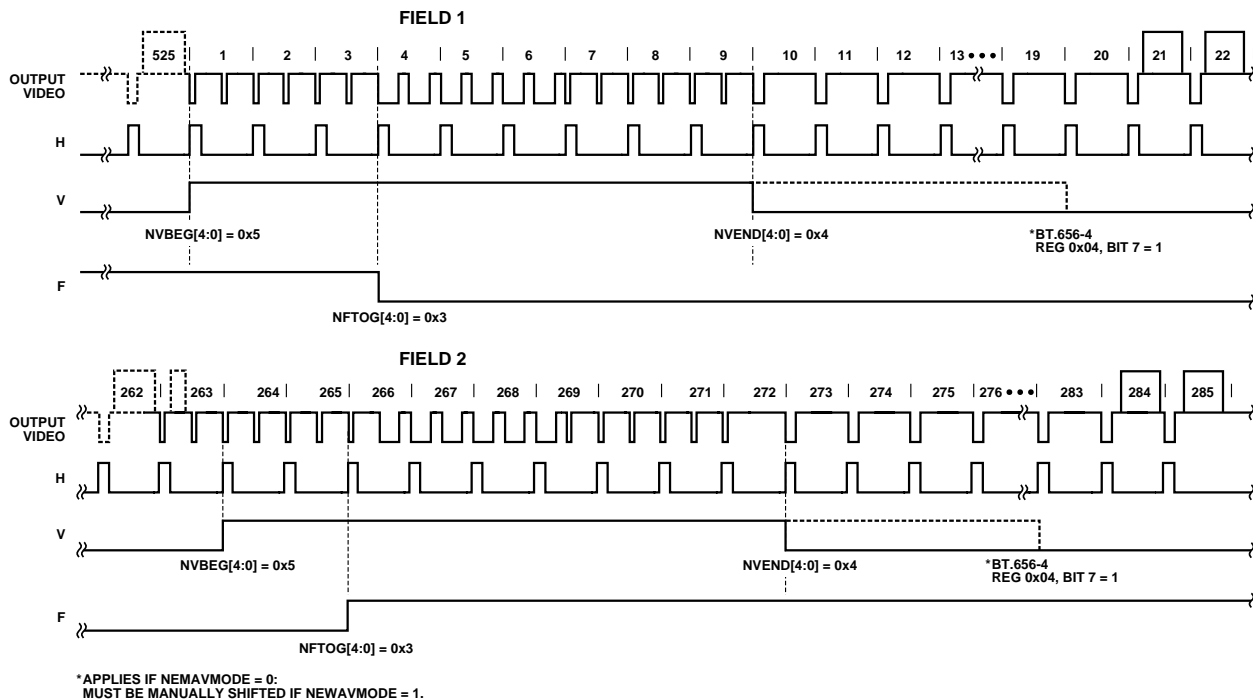
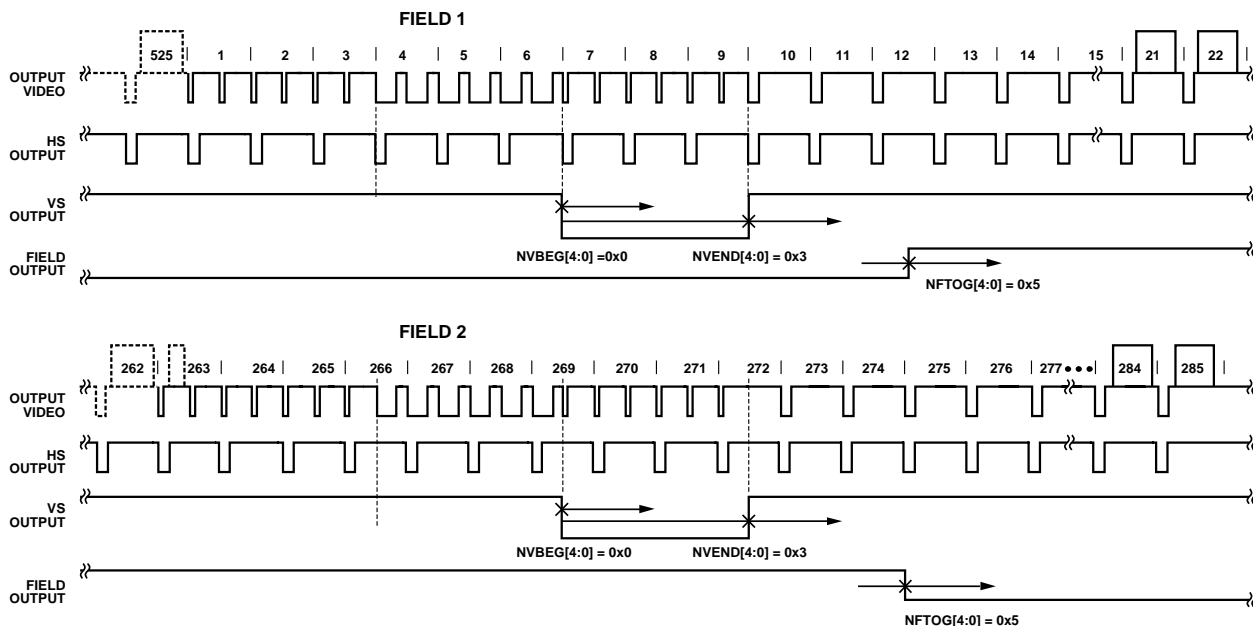
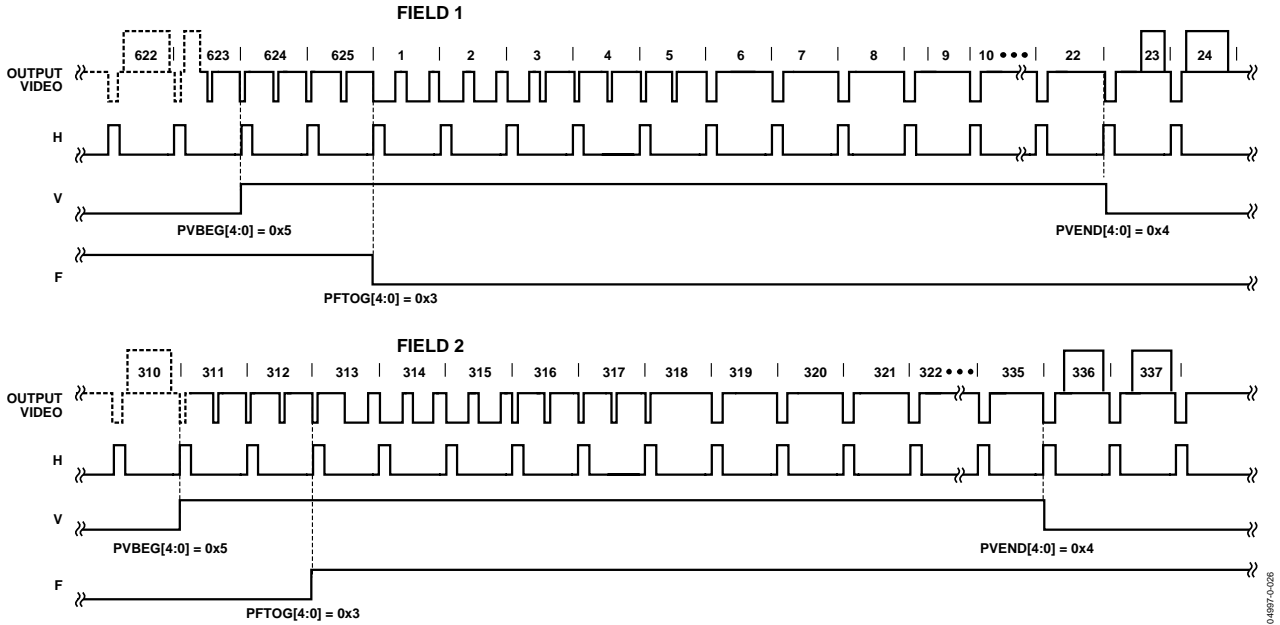
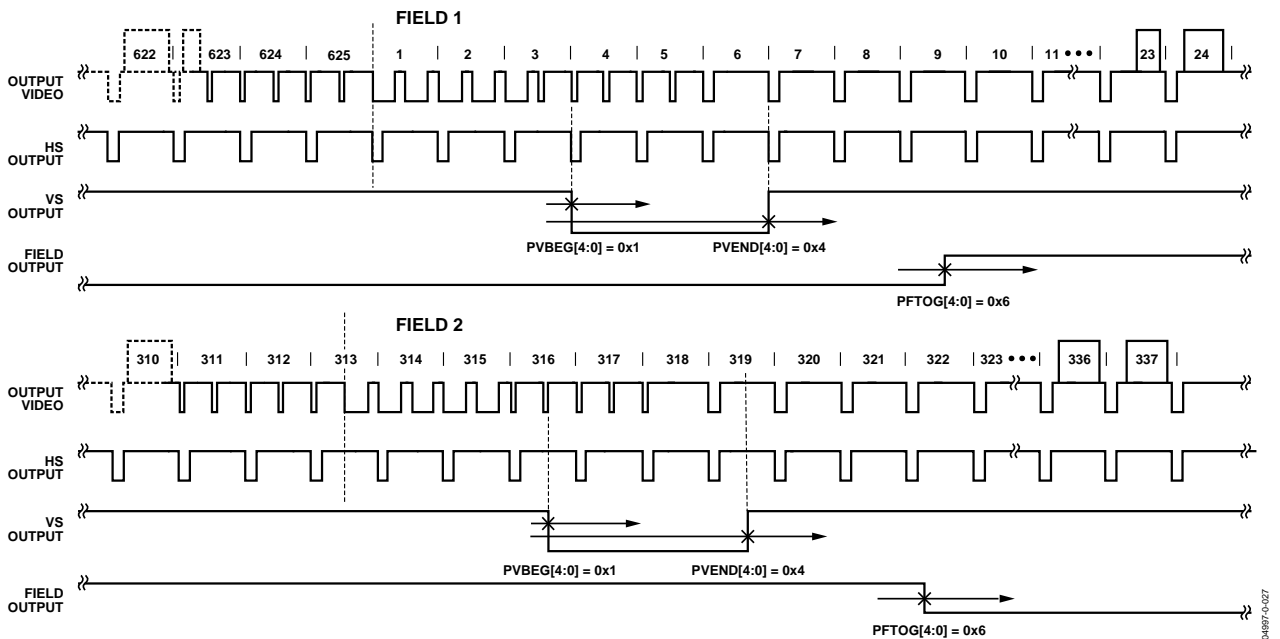

Figure 21. NTSC Default (BT.656). The polarity of H, V, and F is embedded in the data.
Figure 22. NTSC Typical VSync/Field Positions Using Register Writes in Table 55
Figure 26. PAL Default (BT.656). The polarity of H, V, and F is embedded in the data.
Figure 27. PAL Typical VSync/Field Positions Using Register Writes in Table 56
Setting NEWAVMODE to 1 (default) enables the manual position of the VSYNC, Field, and AV codes using Registers 0x34 to 0x37 and 0xE5 to 0xEA. Default register settings are CCIR656-compliant; see Figure 21 for NTSC and Figure 26 for PAL. For recommended manual user settings, see Table 55 and Figure 22 for NTSC; see Table 56 and Figure 27 for PAL.
**Table 55. Recommended User Settings for NTSC (See Figure 22)**
**Table 56. Recommended User Settings for PAL (see Figure 27)**